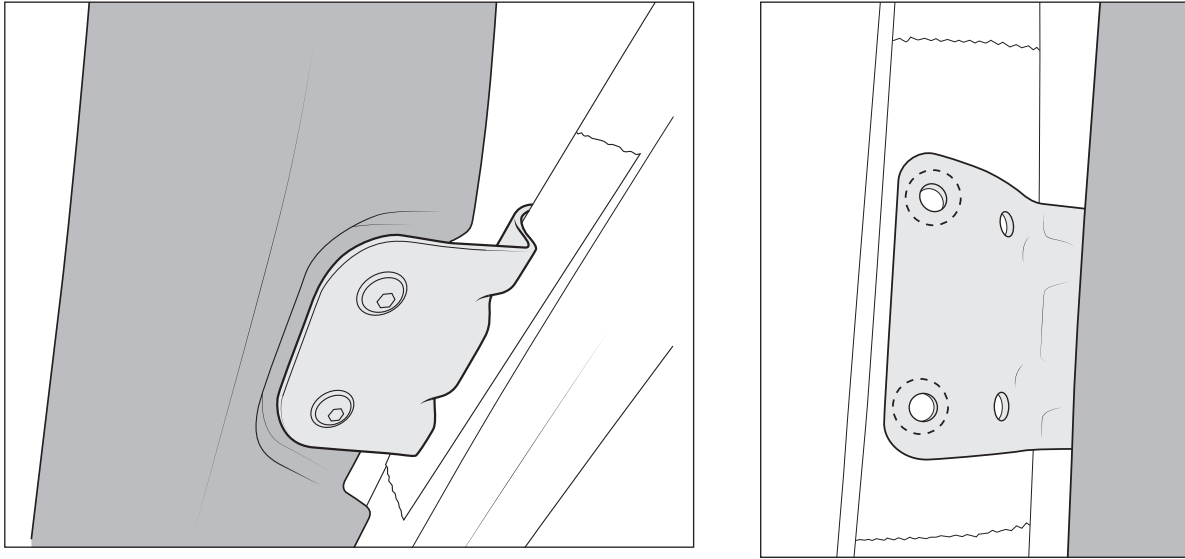

Figure 13
1. Place masking tape on the windshield frame in the area next to the indent on the upper portion of the snorkel. Install stamped mounting bracket to snorkel body as shown (fig. 13) and use provided M6 bolts and washers to loosely retain it. Adjust bracket so that it sits fully against windshield frame contour, hold it in place, mark the two accessible hole locations on the tape, then remove the bracket.